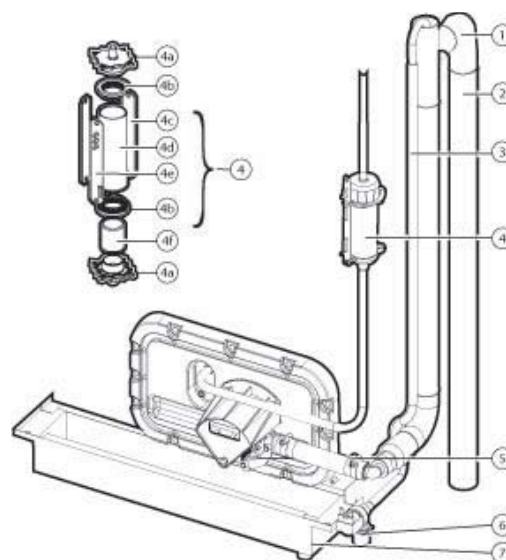

Fig. 17.e
- **Fill electrovalve** (Fig. 17.d, part. no. 3 - Fig. 17.e, part. no. 6)
- **Supply and drain manifold** (Fig. 17.d, part. no. 6)
- **Drain electrovalve / drain pump** (Fig. 17.d, part. no. 5 - Fig. 17.e, part. no.5)
- **Fill tank** (Fig. 17.d, part. no. 1)
- **Supply, fill, overflow pipe** (Fig. 17.a, part. no.2-8 - Fig. 17.e, part. no. 3-1)